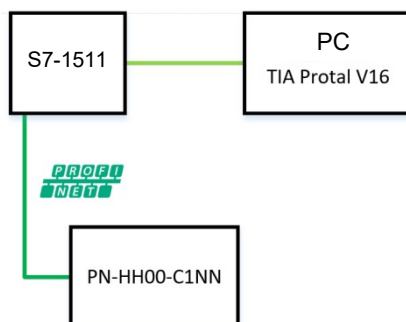

Figure 5-2-1 Communication connection diagram
1. Communication connection diagram, as shown in the figure 5-2-1 shown.